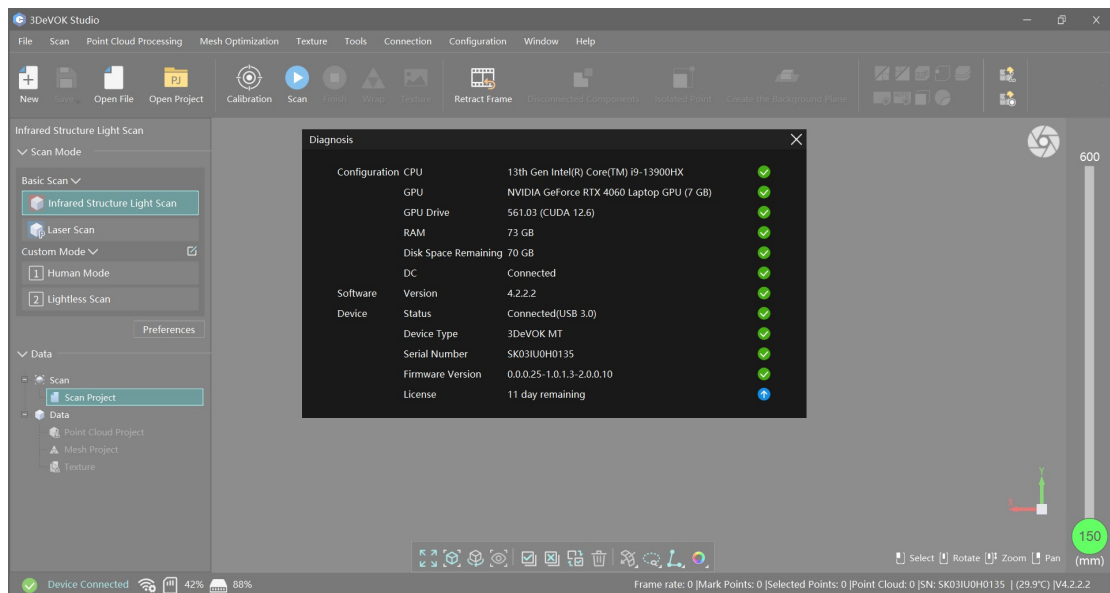

Figure 5-6 The Latest Firmware Version for V4.2.2.2
3. After the upgrade process, check the Diagnosis. The icon  will turn  indicating that the firmware and the screen are the latest one (0.0.0.25-1.0.1.3-2.0.0.10, compatible with V4.2.2.2), which is shown in Figure 5-6.